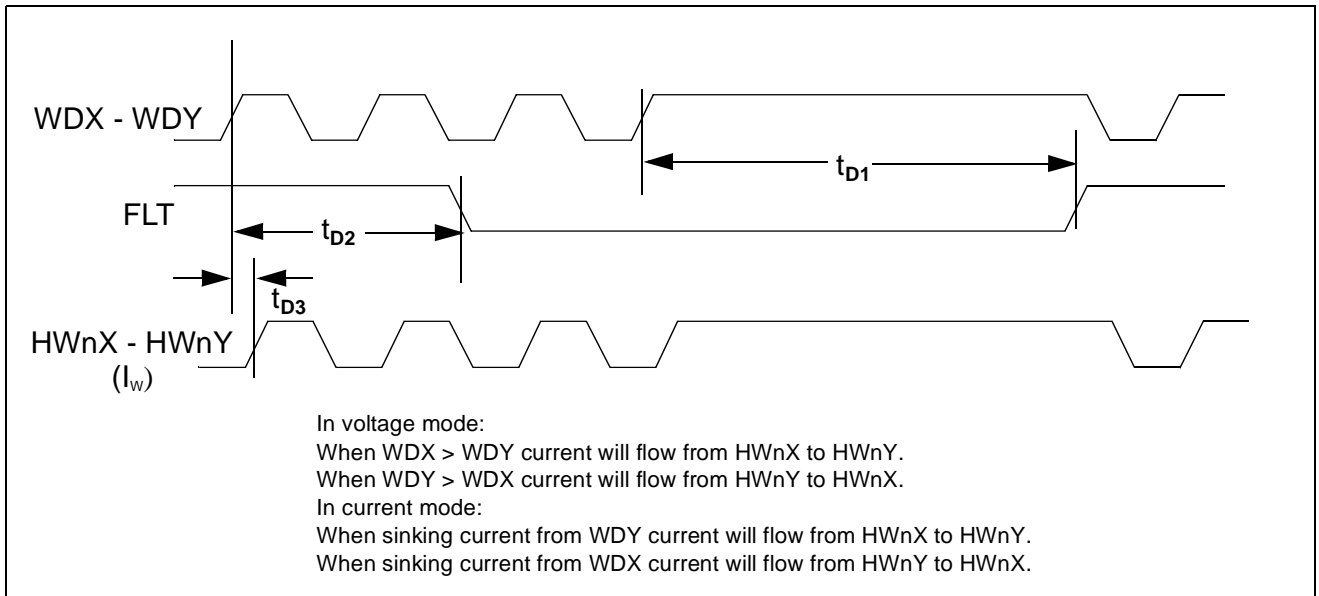

Figure 120 Write Mode Timing Diagram
1. See Figure 120 for the write mode timing diagram on page 419.